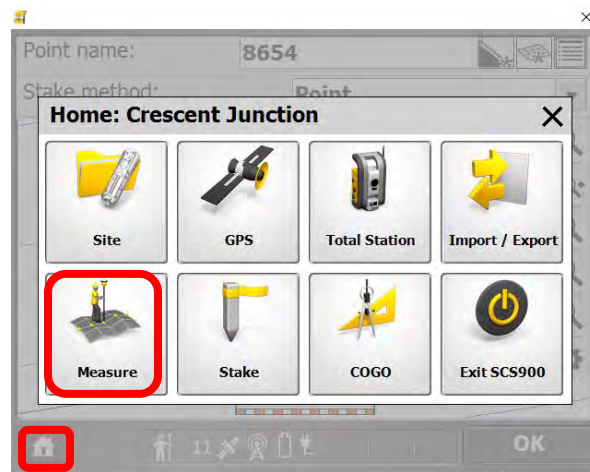

Figure 8. Measure Mode
Step 8: Switch the rover into Measure mode (Figure 8) instead of Stake Mode. To do this, hit the Home key, then the Measure button.